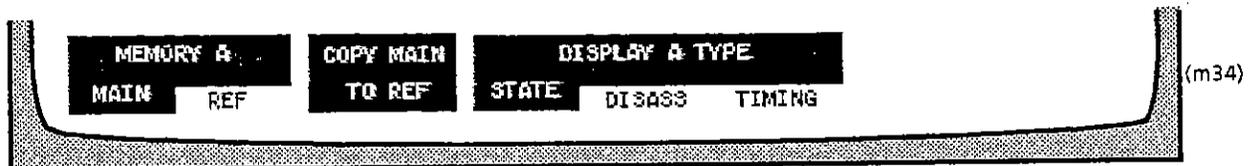

Fig. 7-18
- ▶ Select the SPECIFY function for the display required (A or B). (Fig. 7-18 shows display A by way of example).